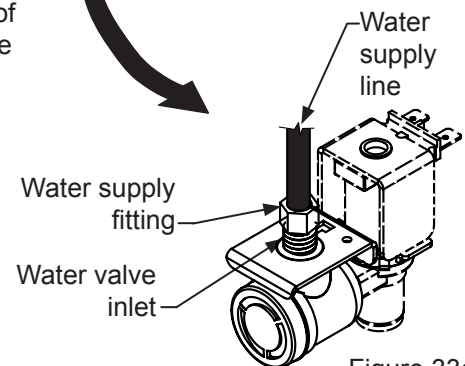
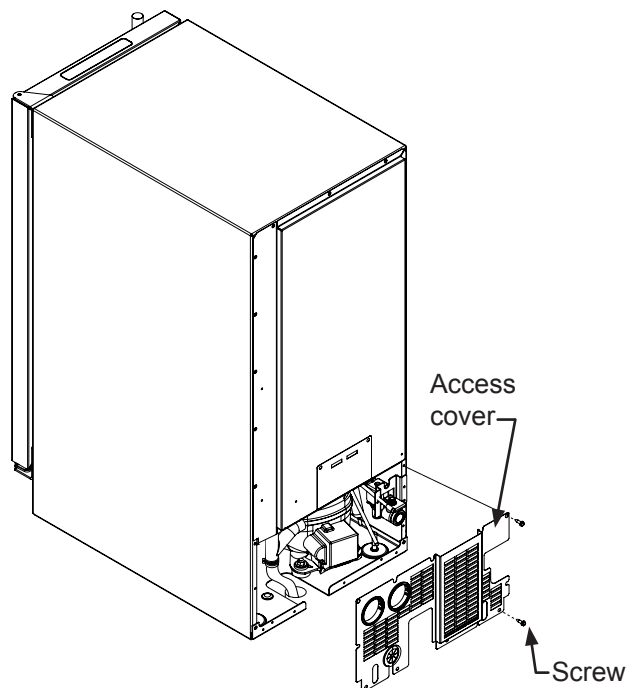

Figure 33a
Figure 34
2. Disconnect the water supply fitting at the inlet of the water valve. (See Figure 33a).
3. Change the electronic control to the "CLEAN" position for approximately one (1) minute. This will energize and open the water valve and remove most of the water from the water valve and the water valve's outlet water line to the reservoir.
6. Remove the access cover from the rear of the ice machine. (See Figure 34).